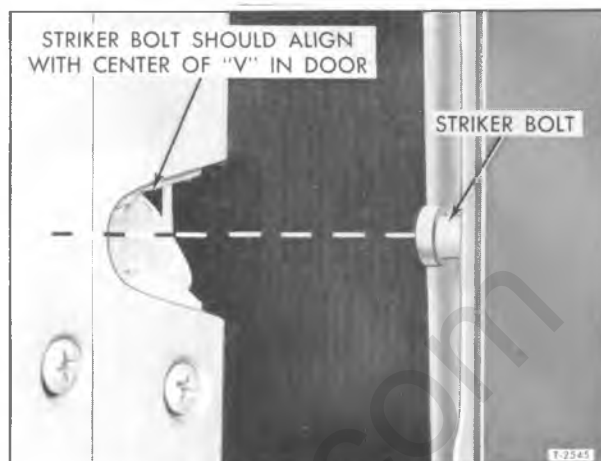

Figure 9—Sight Checking Striker Bolt Alignment
4. If door has been removed and then installed or aligned in opening, the door should not be closed completely until a visual check is made to determine if lock cam in door will engage the striker bolt correctly. Center of striker bolt should be in direct alignment with "V" slot in door. See figure 9. If necessary, reposition striker bolt as directed below under "Striker Bolt Adjustment."
Generally the striker bolt height adjustment can be checked quite accurately by just sighting the center of "V" slot on door with the center of striker bolt as illustrated in figure 9. However,